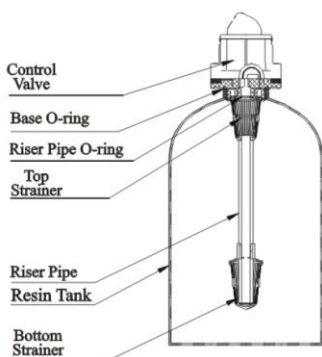

Figure 1-1
- ① The filter should be located close to drain.
- ② Ensure the unit is installed in enough space for operating and maintenance.
- ③ The unit should be kept away the heater, and not be exposed outdoor. Sunshine or rain will cause the system damage.
- ④ Do not install the filter or softener, drain pipeline in circumstance which temperature may drop below 5°C, or above 50°C
- ⑤ One place is recommended to install the system which cause the minimum loss in case of water leaking.
① Install control valve
- a. As the Figure 1-1 shows, select the riser pipe with 26.7mm OD, glue the riser pipe to the bottom strainer and put it into the mineral tank, cut off the exceeding tube out of tank top opening. Plug the riser tube in case of mineral entering.